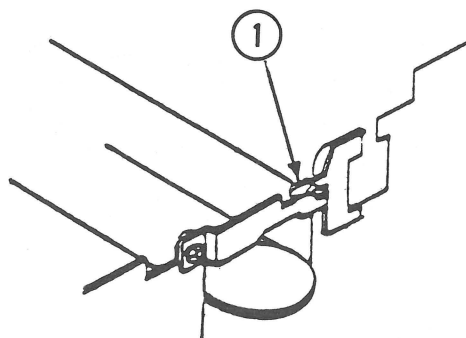

FIGURE 12
11. Remove the wire from the wire holder (Figure 12, #1) on the right side of the printer.